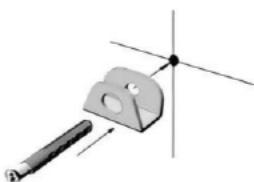
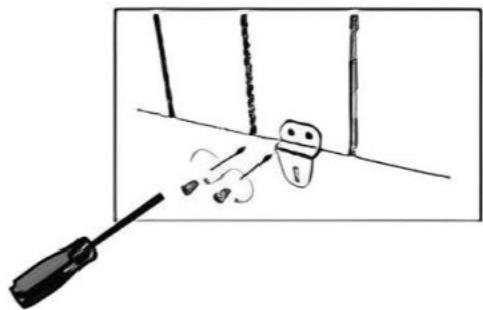

Fig. 6
Fig. 8
3. Insert the two dowels (D) in the two holes and secure the two hooks (C) with the two screws (D) (Figure 6 & 7).
4. Screw on the two brackets (A) (or a single bracket, as appropriate) to the rear of the appliance using the four screws (E) (or two screws, depending on the model).
Note: The two brackets (A) are screwed to the holes at the bottom rear part of the appliance, at both ends. (Figure 8).